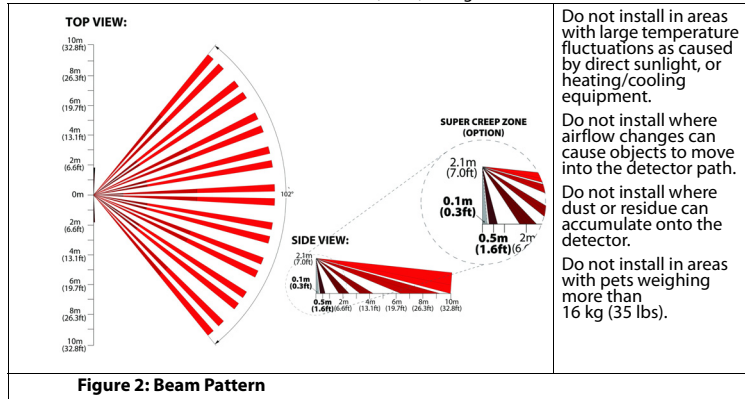

Figure 2: Beam Pattern
Step 1: Select detector location using the Figure 2 as a guide.